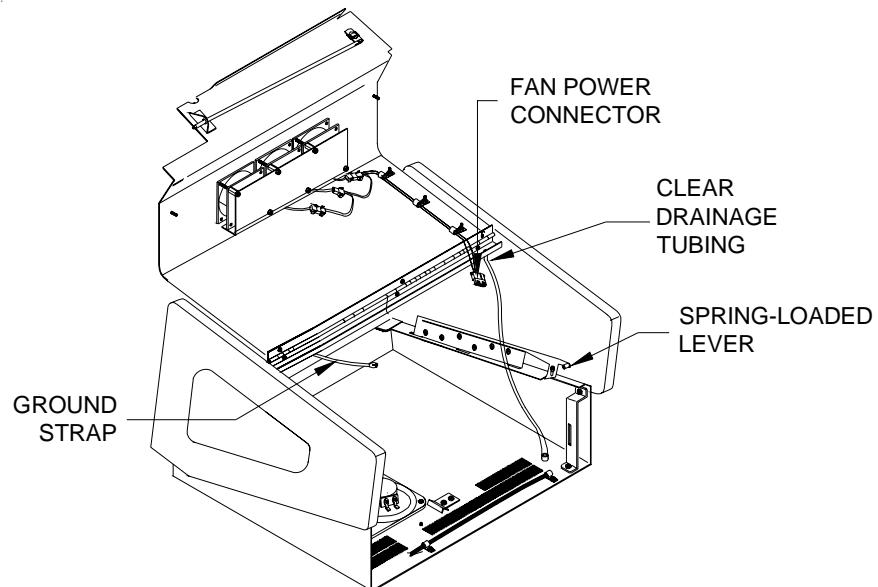

FIGURE 3 - FORCE CLASSIC - HOOD ASSEMBLY
7. After replacing the front bezel, install the lid on the chassis, connecting the fan power connector, monitor control board, ground strap, and plastic drain tube. Then pull the lid towards you until the spring-loaded levers lock into place. See Figures 3 and 4 for locations.